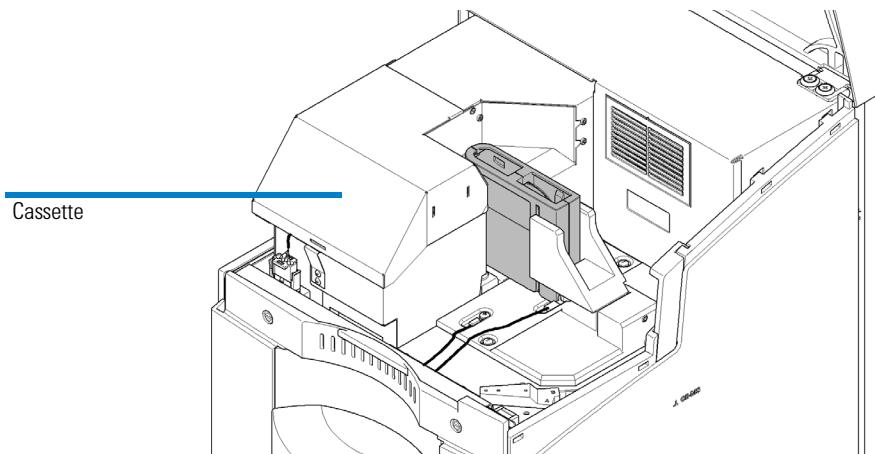

Figure 26 Position of installed cassette
- 2 Open the top cover to access the cassette. Press a spring located in the middle of the front lid to release the latch. Figure 26, “Position of installed cassette,” on page 135 shows the position of an installed cassette.